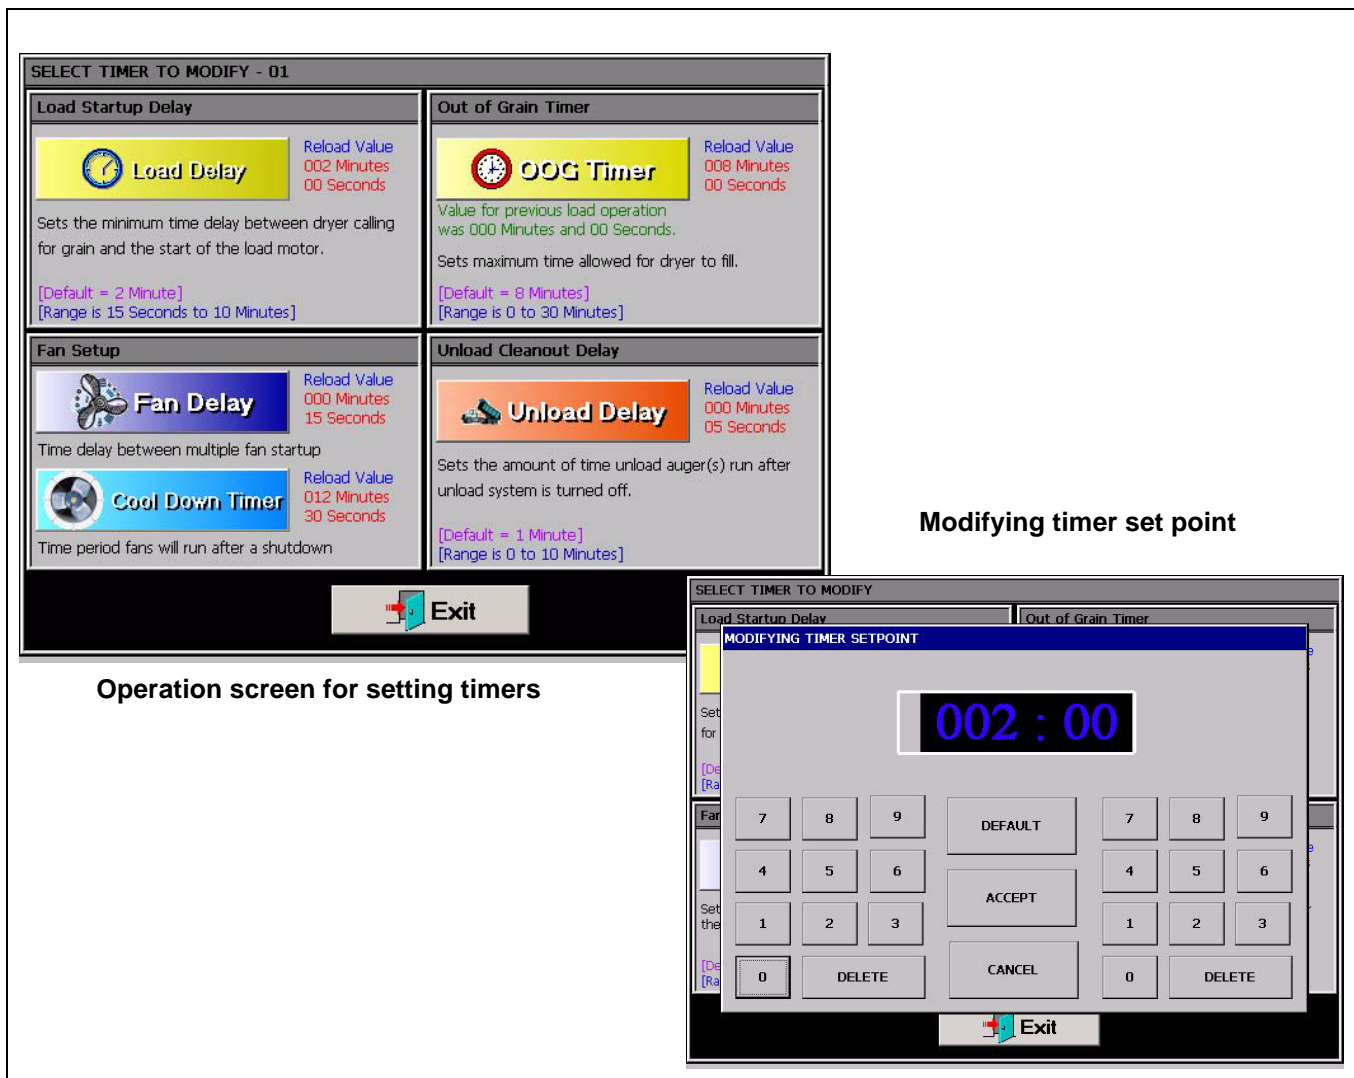

Figure 6C
Setting the timers for the dryer is a simple procedure. To set the timers, touch the  button at the bottom of Operation screen. A new screen will appear called the Select Timers to Modify screen. (See Figure 6C on Page 32.) As you can see there are five (5) timers that you can modify:
To setup a timer touch the button of the timer you wish to modify. The Modify Timer Set Point screen will then be displayed. (See Figure 6C.) Note that there are two (2) number pads on this modify screen. The left number pad is used to modify the minutes and the right number pad will modify the seconds. Touching the Default button will automatically set the timer to the default set point for that timer. The Accept button will save the timer set point displayed in the time display. Touching Cancel will exit the Modify Timer Set Point screen without saving any changes and the timer will stay at the currently saved set point.